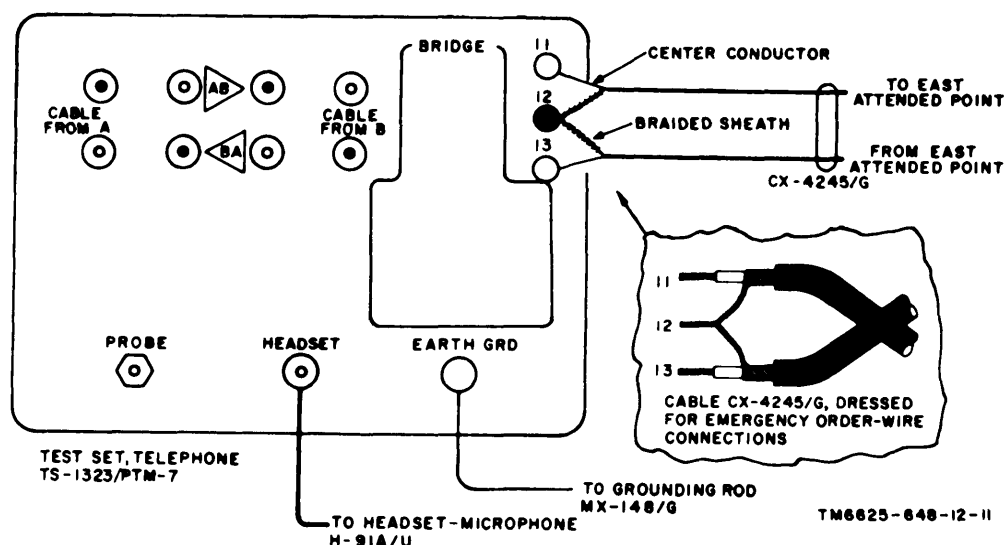

Figure 3-7. Connections for order-wire operation if CX-4245/G is broken or connectors are damaged.
(3) If the cable is cut or the connectors are broken, refer to figure 3-7 and connect the TS-1323/PTM-7 as follows: